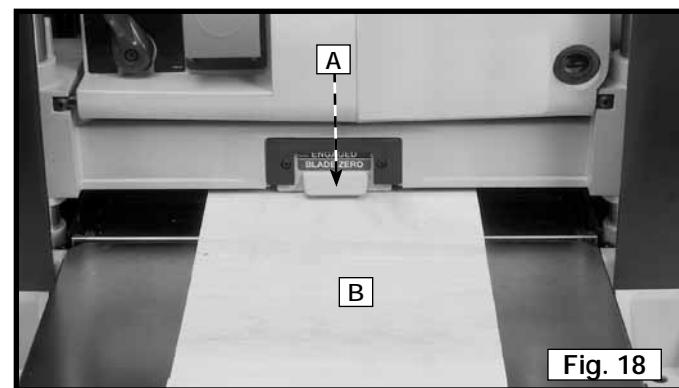

Fig. 18
2. Place the end of the board (B) Fig. 18 underneath the blade zero indicator (A).
3. Lower the cutterhead until the workpiece contacts the bottom of the zero indicator (A) Fig. 18